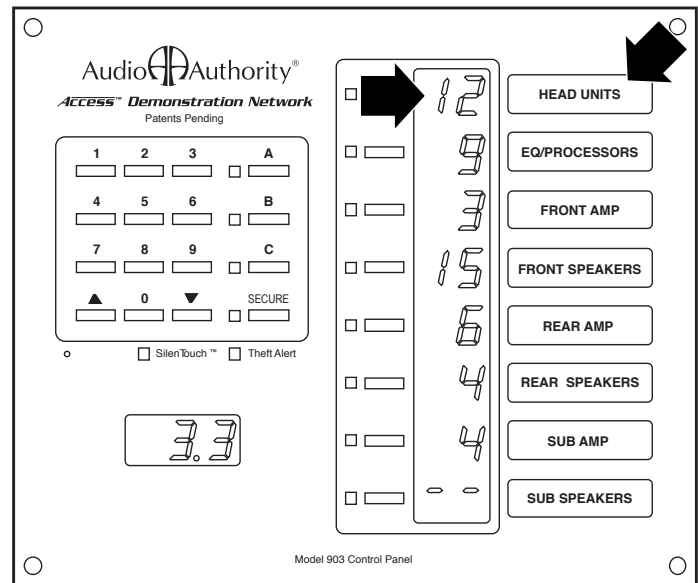

Figure 15. This is how product groups appear on the 903 Control Panel. The display shows Head Unit # 12 is currently selected.
- Note that the front amps and speakers have matching group numbers as do the rear amps and speakers. See Figure 15 to see how the 903 Control Panel usually arranges these product groups.